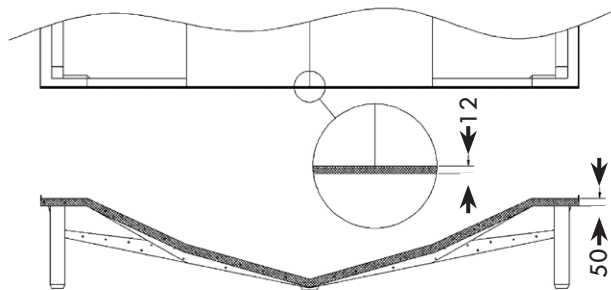

Figure 6. Abrading of basin halves
2. Prepare the joint. Use Acetone and a scraper to clean the faces of the joint to remove smears or deposits of fiberglass release agent, loose paints or filler materials such as Plasticine. Abrade the mating faces of the basin to at least 50mm from the corner. Clean and abrade the corners. Clean and abrade 12mm of the exposed edges of the basin adjacent to the joint (see **Fig 6**). Note that the key area for sealing and gluing is regarded as the 50mm part of the joint closest to the water.